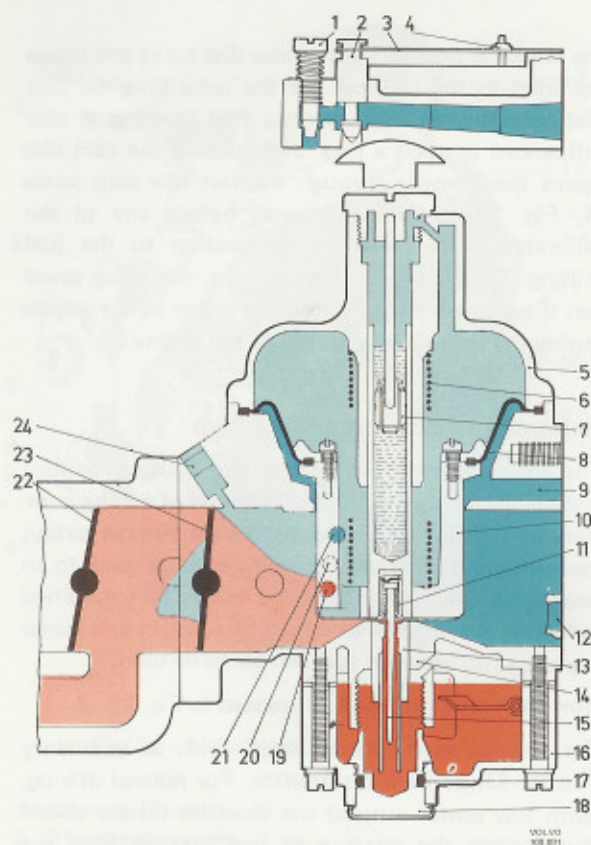
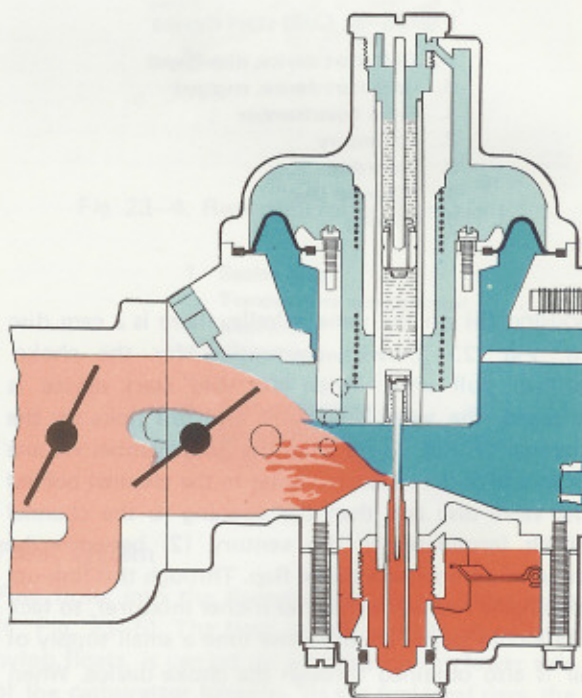

Fig. 23-8. Cold starting, principle
Fig. 23-10. Normal running, with secondary throttle open
When the throttle flap opens, engine induction manifold depression is transferred via the channels in the air valve to the suction chamber. Diaphragm (8, Fig. 23-8) seals between the suction chamber and the carburettor housing.
Due to the difference in pressure between the underside of the air valve, where there is pressure in the carburettor inlet port, and the upper side of the valve, where there is vacuum, the valve lifts from the bridge. This also lifts the tapered metering needle (15, Fig. 23-8), which is attached to the valve, out of the jet. This increases the effective choke area and increases the fuel flow, see Fig. 23-10. As the vacuum in the engine intake manifold depends on engine speed and load, correct fuel flow is always obtained under all operating conditions.
When the air valve (10, Fig. 23-8) lifts, the damper plunger (7) is forced against its seat and oil is prevented from flowing past from the bottom side to the top of the damper plunger, this retarding the movement of the valve (10). This temporarily results in a more powerful vacuum above the jet so that the fuel-air mixture becomes for the moment richer.